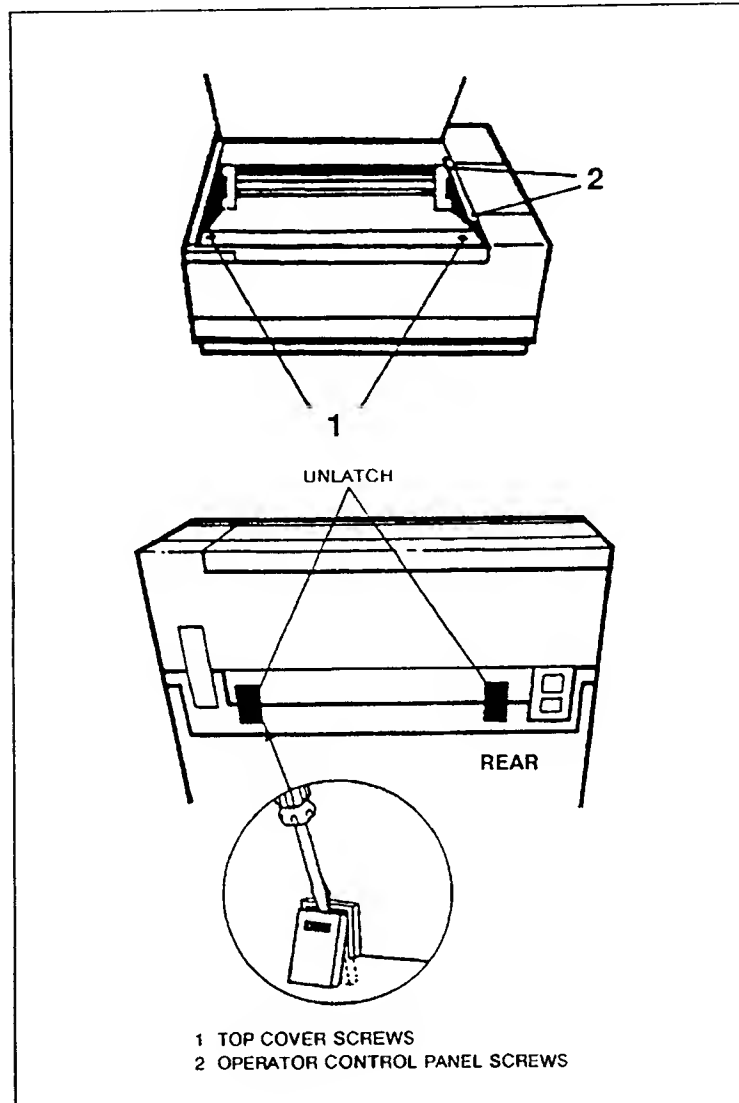

Figure 6-3. HP2300 Top Cover
- d. A ribbon cable connects the printer's control panel to the top cover. Remove the control panel from the top cover by loosening the two pozidrive screws securing panel to the cover (see Figure 6-3, item 2). Slide the control panel toward the center of the printer approximately one-half inch to separate the control panel from the top cover.
out on the top of the black part of the latch to release (see Figure 6-3).